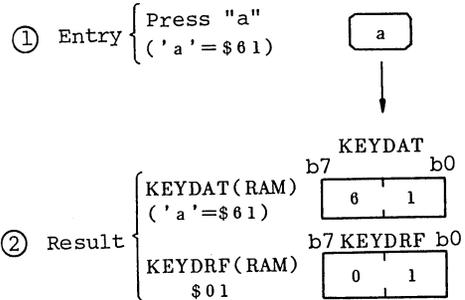

Figure 12-10. Example of EXPINP Execution
- b. Example of EXPINP execution is shown in figure 12-10. If "a" is depressed in console typewriter as shown in part ① of figure 12-10, key data is stored in KEYDAT(RAM) and \$01 is set in KEYDRF(RAM).